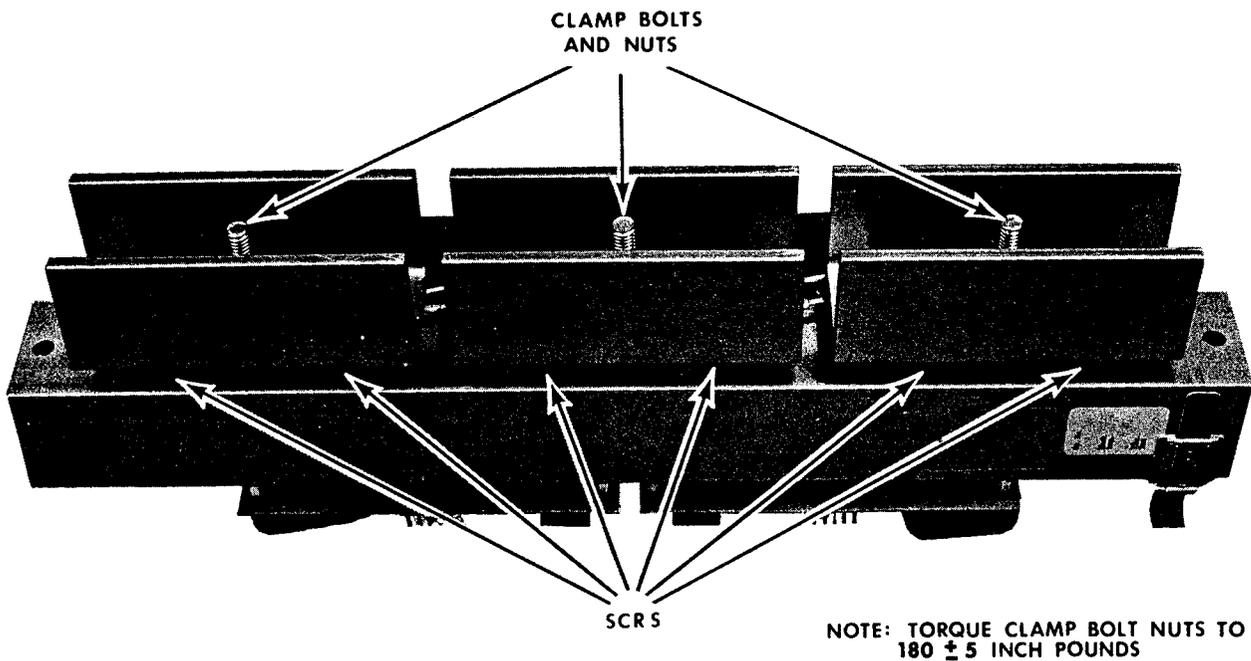
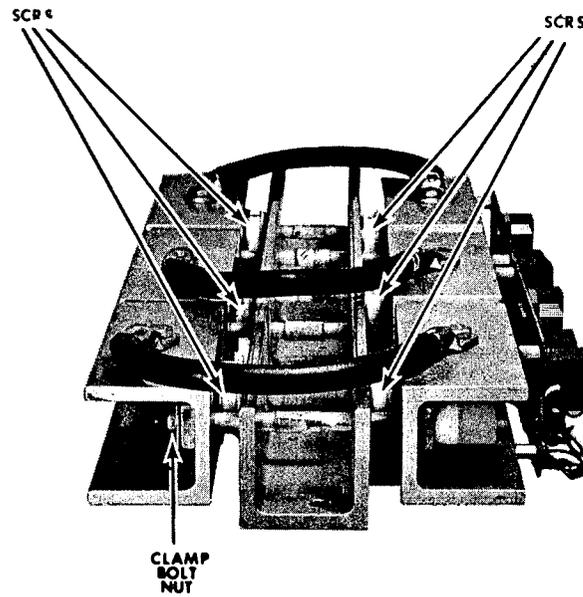
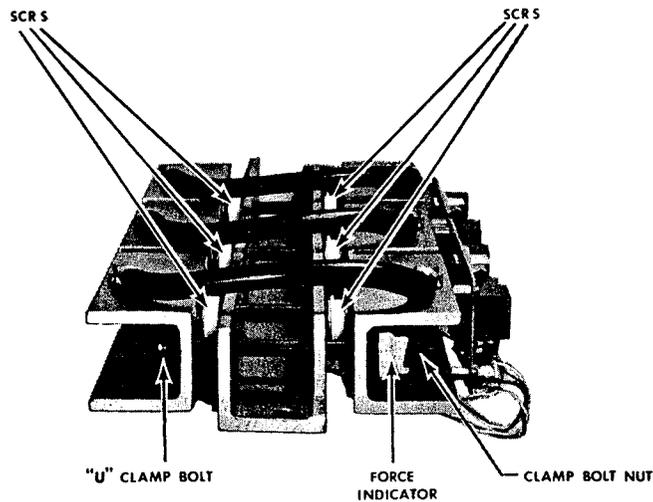

Figure 5-1. SCR Heat Sink Configuration, Center Bolt Type Without Force Indicator
FIGURE 5-2. SCR Heatsink Configuration, "U" Clamp Type Without Force Indicator
FIGURE 5-3. SCR Heatsink Configuration, "U" Clamp Type with Force Indicator
a. METHOD 1 (Center bolt type, without optional force indicator). See Figure 5-1.
(1) Assembly clamps and bolt finger-tight.
(2) Insure that heatsink surfaces are parallel and square to one another.
(3) Tighten clamp bolt to 180 +5 inch-pounds torque.
b. METHOD 2 (U-clamp type, without optional force indicator). See Figure 5-2.
(1) Assembly clamps and tighten bolts finger-tight with an even exposure of threads through the nut plate.
(2) Insure heatsink surfaces are parallel and square to one another.
(3) Tighten first bolt a half turn. Tighten second bolt a full turn. Tighten first bolt a full turn. Tighten second bolt a half turn.
c. METHOD 3 (U-clamp type, with optional force indicator). See Figure 5-3.
(1) Insure that the force indicator is set to zero.
(2) Install clamp and tighten nuts finger-tight.
(3) Quarter-turn nuts alternately until deflection on the gauge is 1.0.